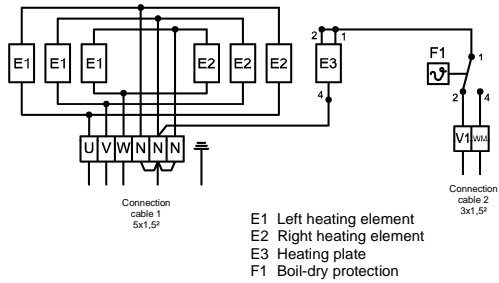

Fig.5
- Feed the connection cable in through the mains lead cleat, and connect in accordance with the wiring diagram (see Fig.5).